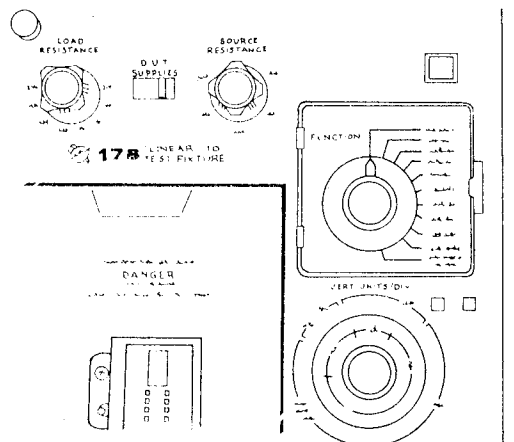

Figure 0-2 Installing nomenclature panel
- 2) Install AMPLIFIER nomenclature panel on FUNCTION SWITCH. If panel is not in place around FUNCTION switch, install it now. See Figure 0-2. **4b**